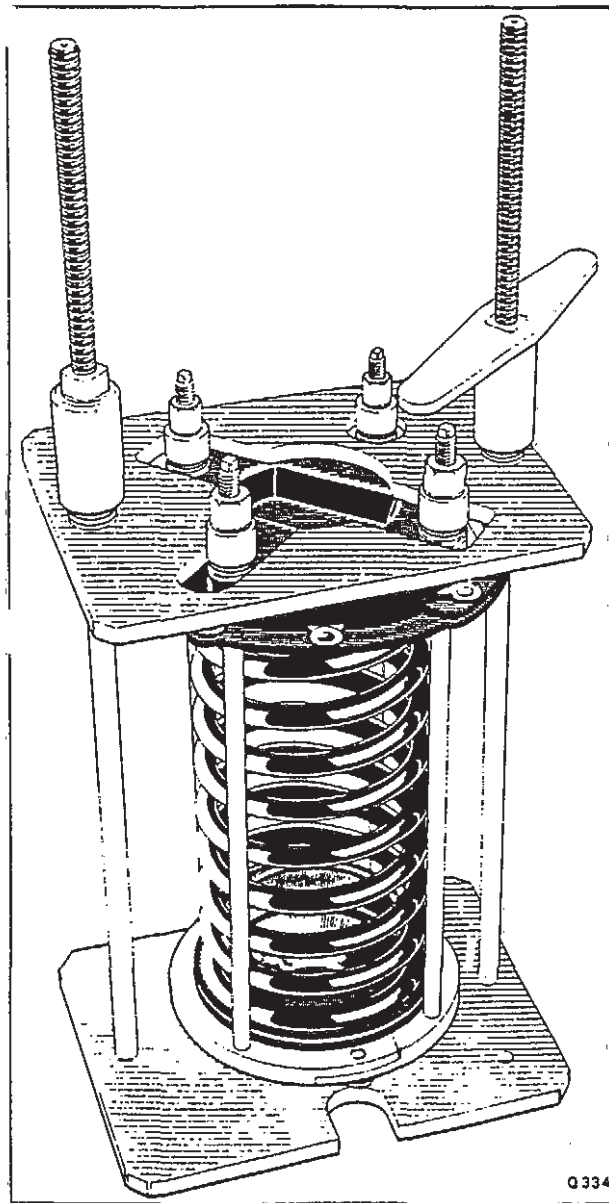

Fig. H3-3 Spring compression tool
Place the complete assembly into spring compression tool RH7909. Fit and secure the top plate of the tool to retain the spring (see fig. H3-3).
4. Place the road spring and its associated components (see fig. H3-3) into spring compression tool RH7909 and compress the spring to the measurement taken on removal.